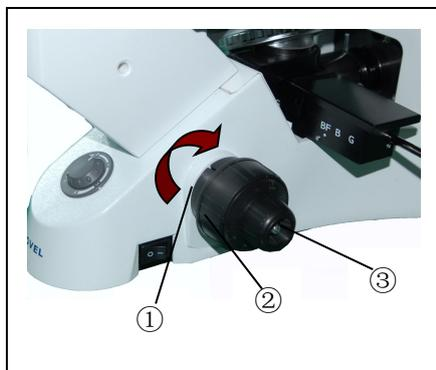

Fig 14
#### 3.2.2 Adjusting the Tension Adjustment Collar (Fig14)
◎How to adjust tension of the coarse focusing knob? Turn the tension adjustment collar ① with the plastic spanner. While revolving at the direction of the arrow in the Fig. 14, the tension of the coarse focusing knob② is increasing, and if at the contrary direction, the tension will decline.